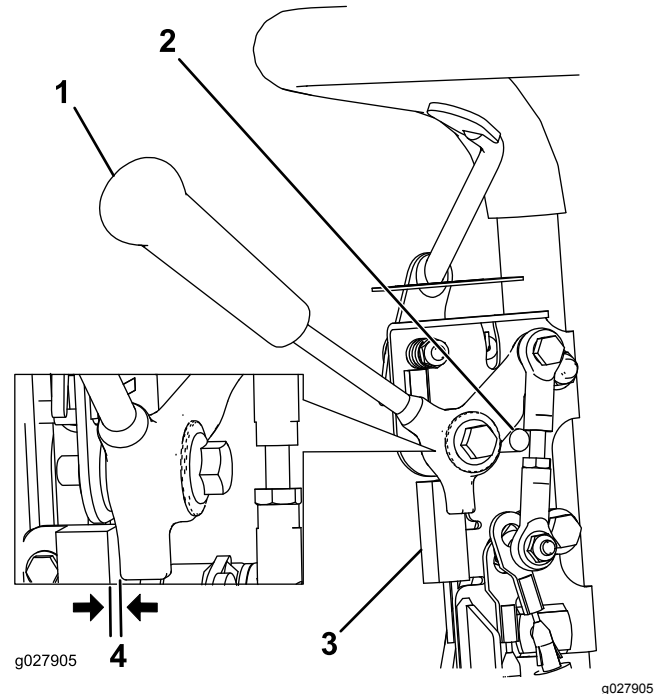

Figure 36
1. Ensure that the engine is off and the traction lever is disengaged and resting against the neutral stop (Figure 36).
2. Loosen the interlock switch mounting fasteners (Figure 36).
3. Place a 0.8 mm (0.032 inch) thick shim between the traction lever and the interlock switch (Figure 36).